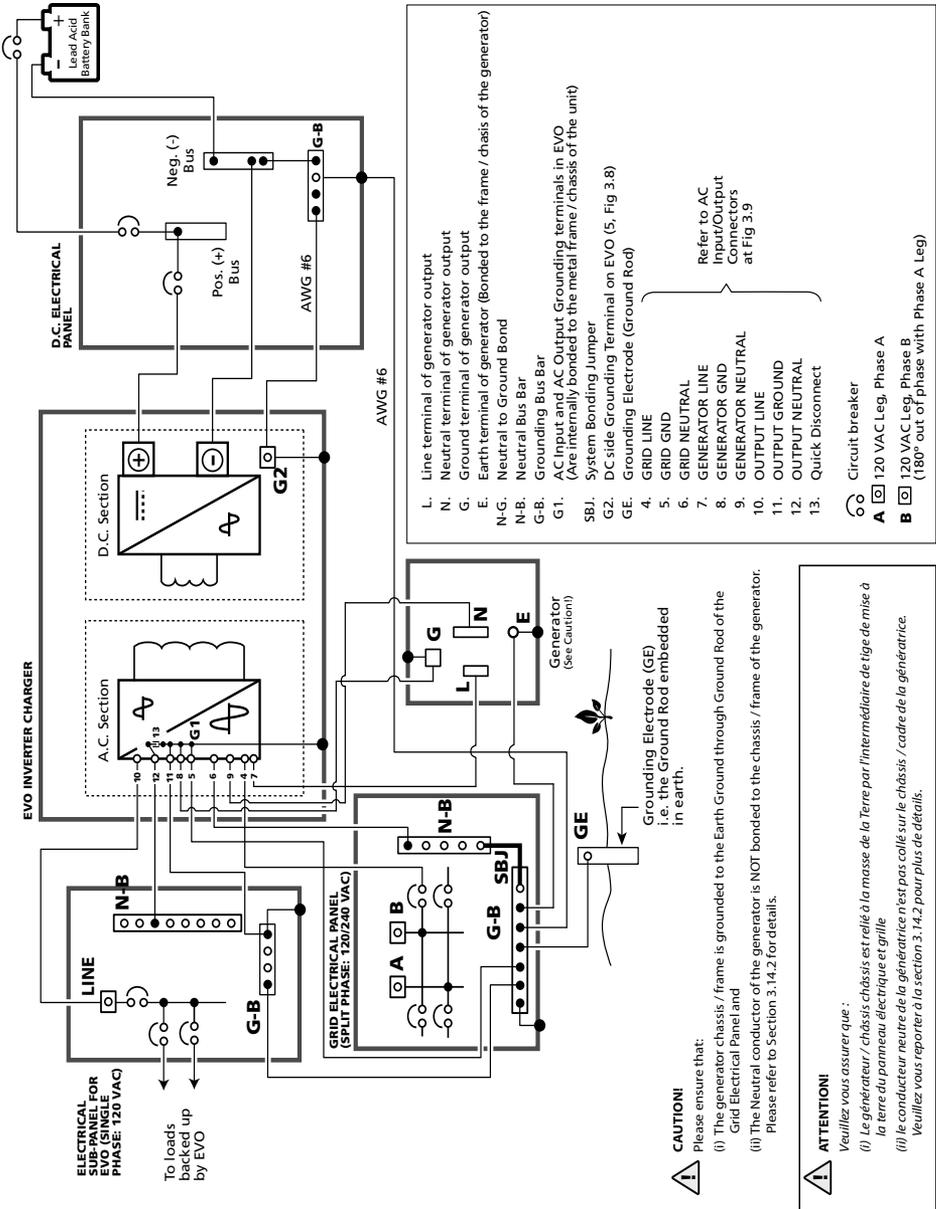

Fig 3.12 Grounding Arrangement for Shore Based Installation
Schematic at Fig. 3.12 illustrates the grounding arrangement of EVO Series.
3.13 DC SIDE GROUNDING (SEE FIG. 3.12)
As described at Section 3.14, the metal frame / chassis of the EVO (Fig 3.12, G1) is bonded to the Earth Ground "GE" (Ground Rod) for AC side grounding. It may be argued that if the metal frame / chassis of EVO is already bonded to Main Earth Ground "GE" for AC side grounding, why it is necessary to provide additional DC side grounding wiring? (Wiring that bonds DC Grounding
Terminals "G2", "G-B" and GE in Fig 3.12) If separate thicker grounding wire of the same size as the battery cable was not provided for the DC side grounding and there was a ground fault in the battery circuit, very large DC fault current from Battery+ would flow through the smaller size AC grounding wires to the Battery Negative through Earth Ground. These smaller size AC side grounding wires would be damaged due to very high DC side fault current (150A to 400A depending on the Model of the EVO being used).
A DC Distribution Panel, as shown in Fig. 3.12, is normally provided to connect the batteries and distribute DC power to the inverter and to the other DC loads.
3.14.1 AC Side Grounding (Please see Fig 3.12)
- In EVO, the AC Input Grounding Terminals {GEN GND (8), GRID GND (5)} and AC Output Grounding Terminals {OUTPUT GND (11)}, are internally bonded to the metal chassis of the inverter (G1)
- The Grounding Wires from Grid/Generator are connected to the AC input Ground terminals in EVO {GRID GND (5), GEN GND (8)}.
- The AC output Ground wire of EVO {OUTPUT GND (11)} is connected to the Grounding Bus Bar (G-B) of the Electrical Sub-Panel for EVO.
- The Earth Terminal (E) of the Generator (bonded to the frame / chassis of the Generator) is also connected to the Grounding Bus Bar (G-B) of the Grid Electrical Panel.
- The Grounding Bus Bar (G-B) of the Grid Electrical Panel is bonded to the Grounding Electrode (GE) i.e. the Ground Rod.
As explained at Section 3.14.1 above and shown in Figs 3.12 and 3.13, the Neutral Terminals of Grid Input, Generator Input and AC Output are internally bonded to the metal chassis of the EVO and the metal chassis of the EVO is connected to the Earth Ground through the Ground Rod of the Grid Electrical Panel. As the internal Transfer Relay does NOT transfer the Neutral of the Grid and Generator Inputs, the Neutral Terminal of the external Generator will get solidly connected to the Neutral of the Grid Service Neutral. With this type of Neutral connections, the external Generator will NOT be considered as a Separately Derived System as per FPN 1 in Section 250.20(D) of NEC 2011 and hence, the Neutral conductor of the external Generator is NOT required to be grounded to Earth Ground through Ground Rod as per Section 250.30 of NEC 2011.
When connecting a generator to the EVO for shore based installation (See Figs 3.12 and 3.13), please ensure that (i) the generator chassis / frame is grounded to the Earth Ground through Ground Rod of the Grid Electrical Panel and (ii) the Neutral conductor of the generator is NOT bonded to the chassis / frame of the generator. If the bond between the Neutral conductor of the generator and it's chassis / frame is not removed, GFCI protected breaker supplying Grid power to the EVO will trip due to splitting of some return Neutral current through the path: Common Neutral → Neutral of Generator → Neutral to chassis / frame bond in the Generator → Neutral to Ground bond in Grid Electrical Panel → Neutral of Grid Electrical Panel (current returning through this path will not return through the GFCI protected Grid breaker and the GFCI will trip the breaker).
Lors de la connexion d'un générateur à l'EVO pour l'installation à partir du rivage (voir les figures 3.12 et 3.13), veuillez vous assurer que (i) le générateur / châssis châssis est relié à la masse de la Terre par l'intermédiaire de tige de mise à la terre de la grille panneau électrique et (ii) le conducteur neutre de la génératrice n'est pas collé sur le châssis / cadre de la génératrice. Si la liaison entre le conducteur neutre de l'alternateur et c'est châssis / trame n'est pas enlevé, protégée GFCI breaker fournissant l'alimentation de la grille de l'EVO s voyage en raison d'un fractionnement de revenir par le chemin courant: Neutre commun → Générateur de Point Mort pour châssis / liaison châssis dans le générateur → point mort à la masse du panneau électrique grille → Point Mort du panneau électrique de la grille actuelle (retour par ce chemin ne sera pas de retour à travers la grille de protection GFCI disjoncteur et le disjoncteur se déclenche le disjoncteur).